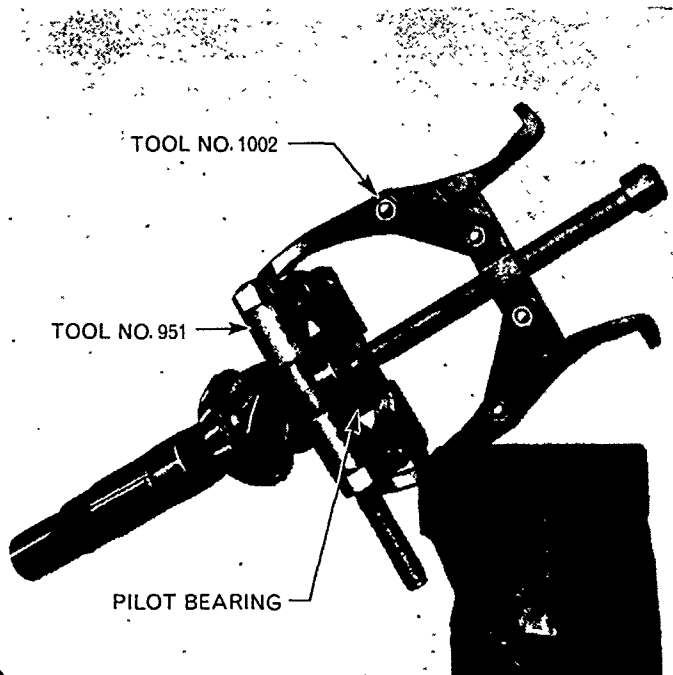

Figure 27
6. Remove the lock ring from the rear end of the pinion gear and using Tool Nos. 1002 and 951 pull the pilot bearing off the pinion gear, Figure 27.